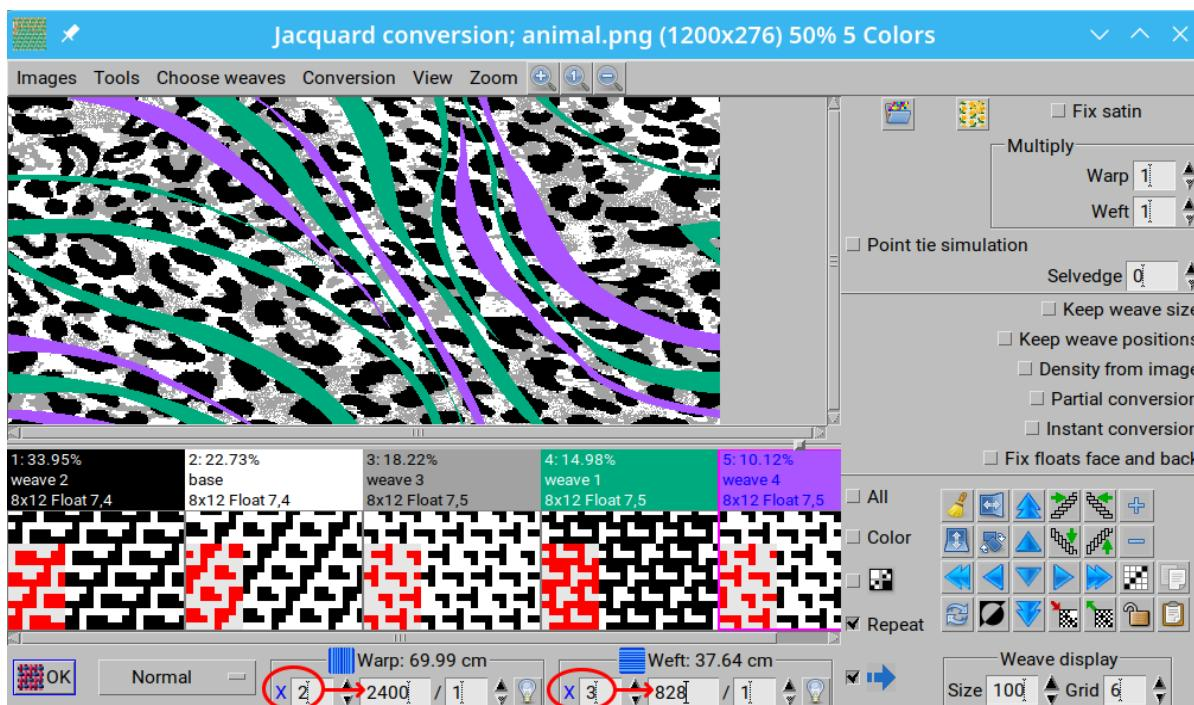
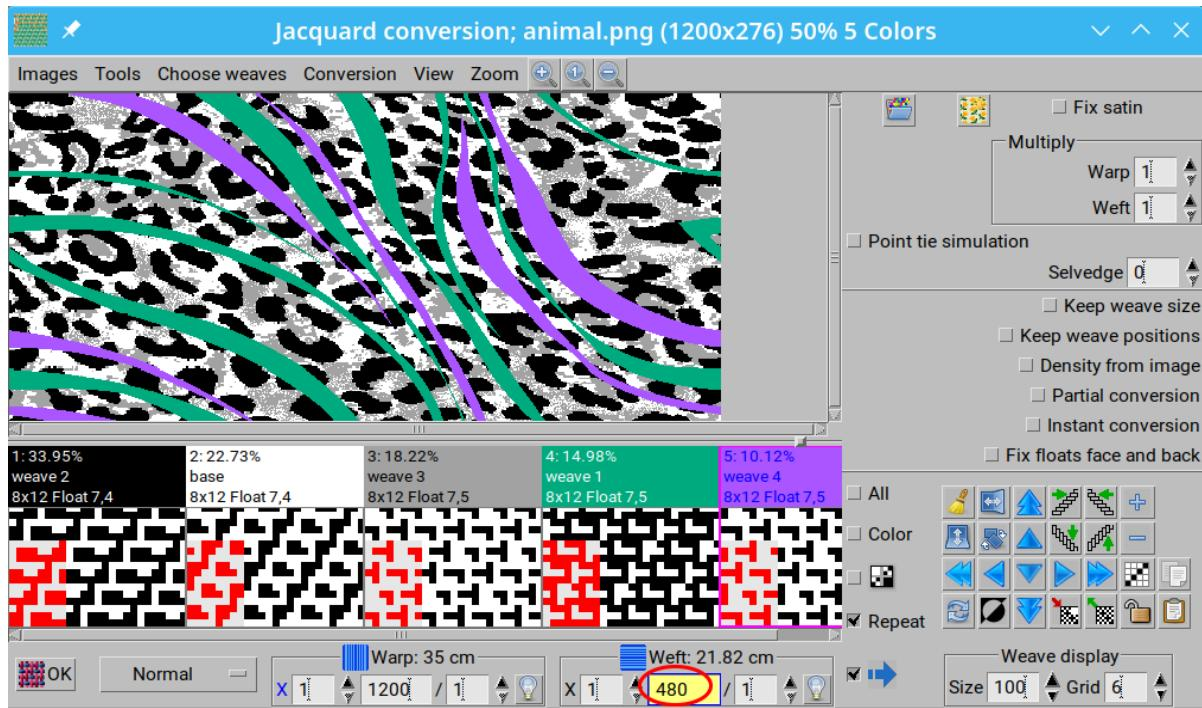

Figure 255: Jacquard weave size changed by multiplying
Figure 256: Manually changed Jacquard weave size
- Enter the multiplication factor of the original image size in the X input field . You can enter any multiplication as long as the size does not exceed the ArahWeave's weave size limit. In Figure 255, multiplying by two (x2) is used for warp, and multiplying by three (x3) is used for weft. Blue color of the multiplier factor indicates that it was used to determine the weave size. If we change the number manually (Figure 256), then its color turns to black.